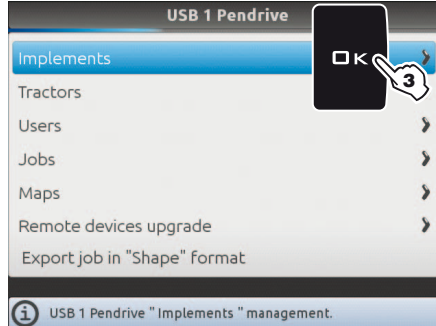

Fig. 296
Allows to transfer the saved data concerning **Implements, Tractors, Users, Jobs** or **Maps**, from the pendrive onto Bravo 400S internal memory. The following paragraphs will use **Implements** as an example: the same procedure will be valid for all other cases (**Tractors, Users, etc.**, Fig. 296).
- 3 Select **Implements** (Fig. 296) and press **OK**.